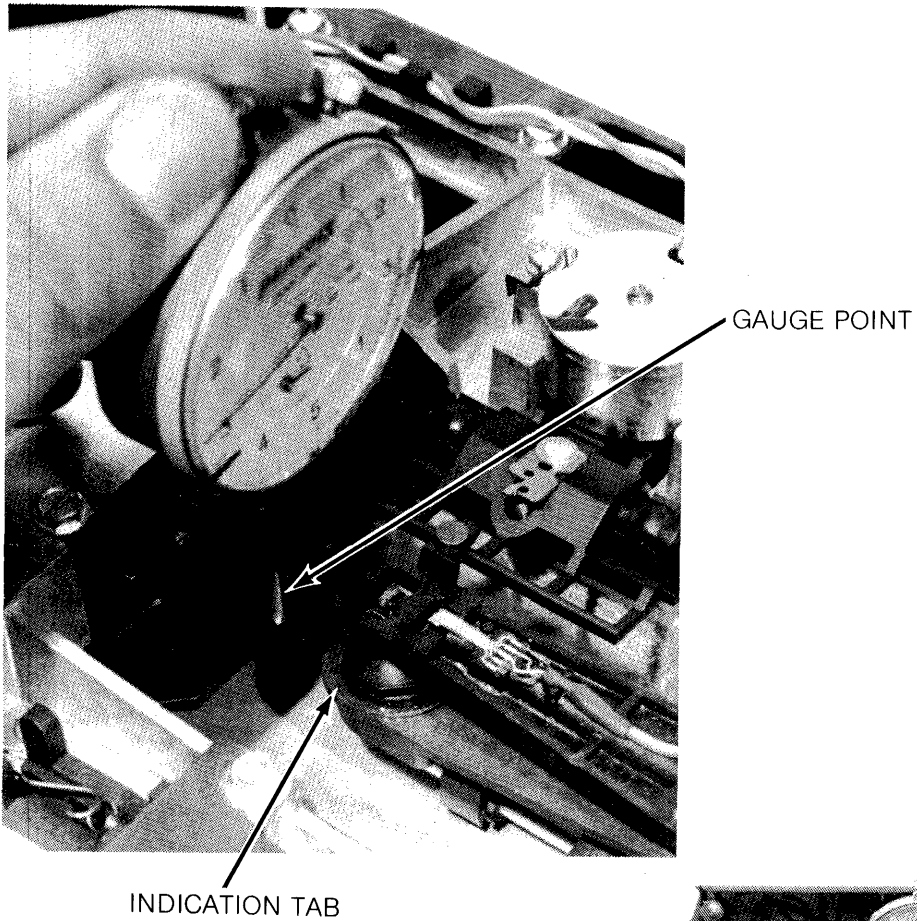

FIGURE 43. INSTALLATION CHECK
- e. The shaft the extends from the stepper motor can be used to move the head up far enough so the gauge point is indicating off the tab, on the side zero head as shown in Figure 43.